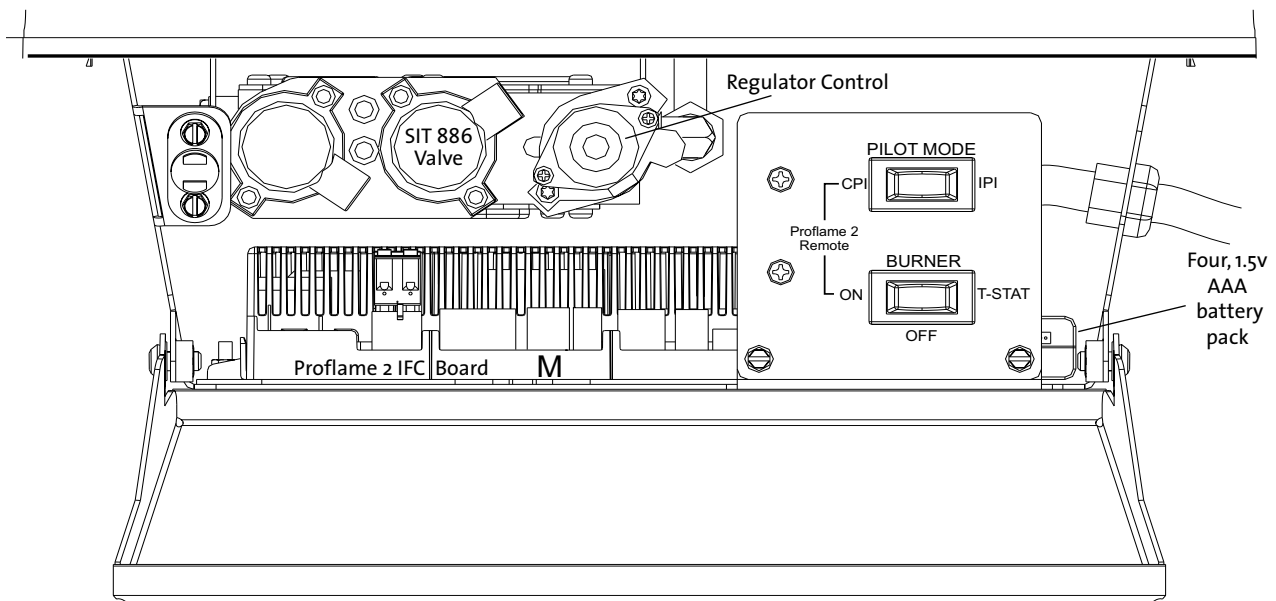

Figure 40. Control Compartment.
5. Once the pilot is lit, burner operation is controlled by the rocker switch located on the front panel. See fig. 40. **ON / OFF** - use for manual control of the burner. It remains in the ON position for use with the Proflame 2 remote transmitter. **T-STAT** - use for optional wall thermostat.